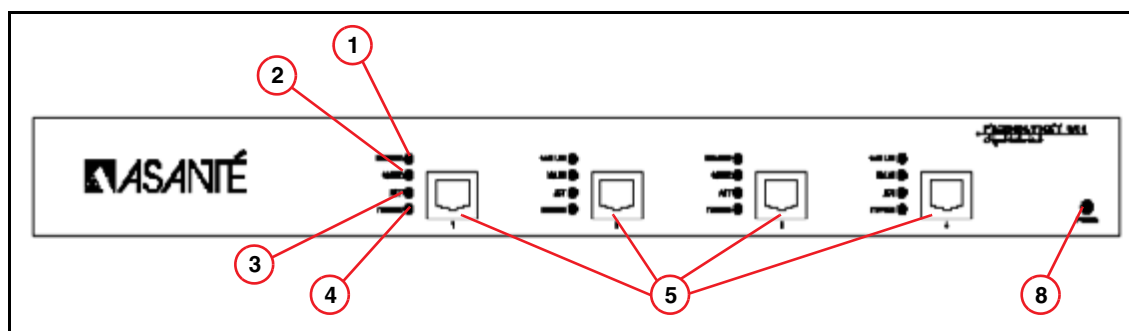

Fig. 14: 1 GB switch
- The LED **100M Link** (1/Fig. 14 / p. 39) "ON" indicates that a valid 100Mbps link is established. Because the IRS does not work in this mode, the LED is permanently "OFF".
- The LED **1G Link** (2/Fig. 14 / p. 39) "ON" indicates that a valid 1Gbps link is established. Because the IRS always works in this mode, the LED should be permanently "ON".
- The LED **ACT** (3/Fig. 14 / p. 39) "Blinking" indicates transmission or reception of data packages.
- The LED **FDX/HDX** (4/Fig. 14 / p. 39) indicates whether the switch is working in full- or half-duplex mode. Because the IRS is always working in full-duplex mode, the LED should be permanently "ON".
- The **Power** LED (6/Fig. 14 / p. 39) shows whether the component is switched on or off.
- Position (5/Fig. 14 / p. 39) shows the Gigabit Ports 1 to 4, from left to right.